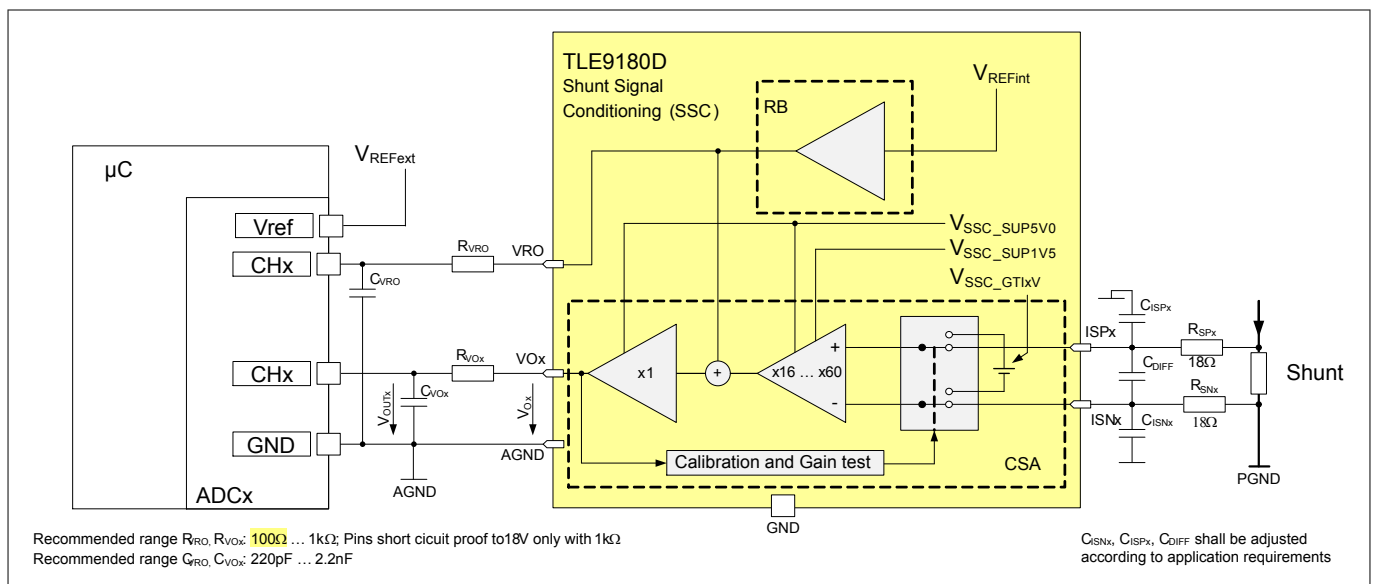

Figure 5 Simplified Block- and Application Diagram of the Shunt Signal Conditioning
The shunt signal conditioning (SSC) incorporates 2 precise current sense amplifiers (CSAs) to **amplify the voltage drop at the shunt resistors** caused by the motor currents and a voltage reference output buffer (RB), see **Figure 5**.